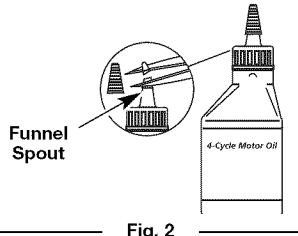

Fig. 2
1. Unscrew the top of the bottle of oil and remove the paper seal covering the opening. Replace the top. Next, cut the tip off the funnel spout (Fig. 2).